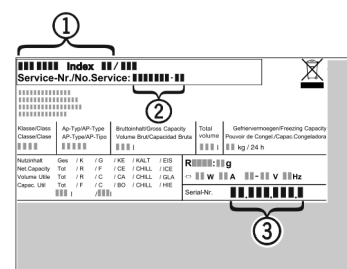

Fig. 15
- ▶ Read the appliance designation Fig. 15 (1), service No. Fig. 15 (2) and serial No. Fig. 15 (3) off the model plate located inside the appliance on the left-hand side.
- ▶ Notify the customer service, specifying the fault, appliance designation Fig. 15 (1), service No. Fig. 15 (2) and serial No. Fig. 15 (3).